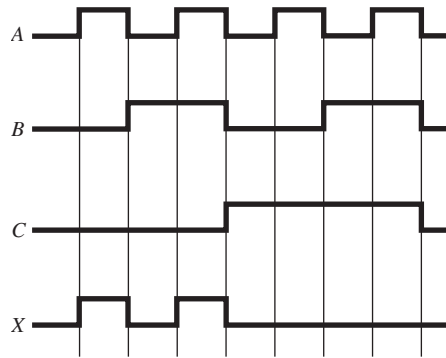

Figure 5-78
- Write the simplified equation that will produce the output waveform at X , given the inputs at A , B , and C shown in Figure 5-78.